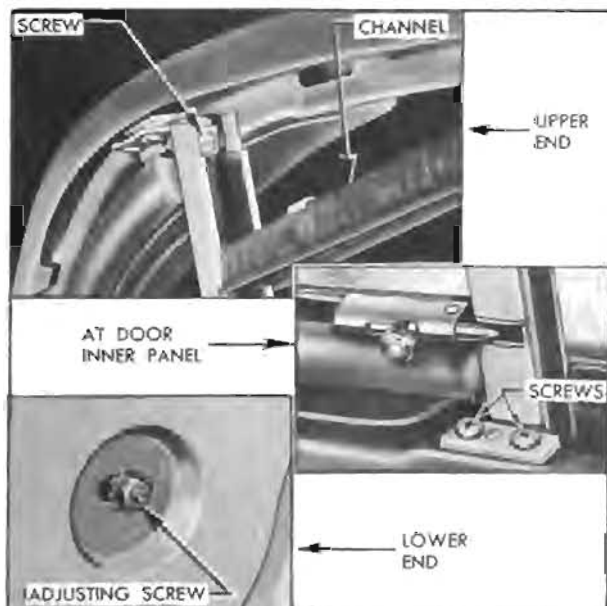

Figure 13-32—Window Division Channel Attachments
2. Remove the retaining screw holding upper end of division channel to door header and remove the two self-tapping screws attaching division channel to the top edge of door inner panel. See figure 13-32.